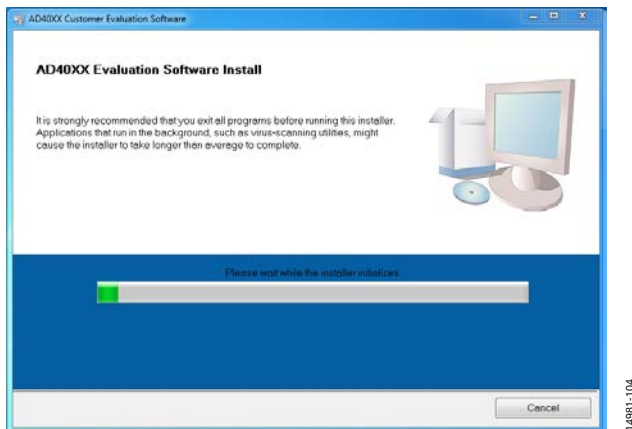

Figure 4. **AD40XX Evaluation Software Install** Window
3. Begin installing the evaluation software by clicking the **setup.exe** file. The software installation window opens as shown in Figure 4.